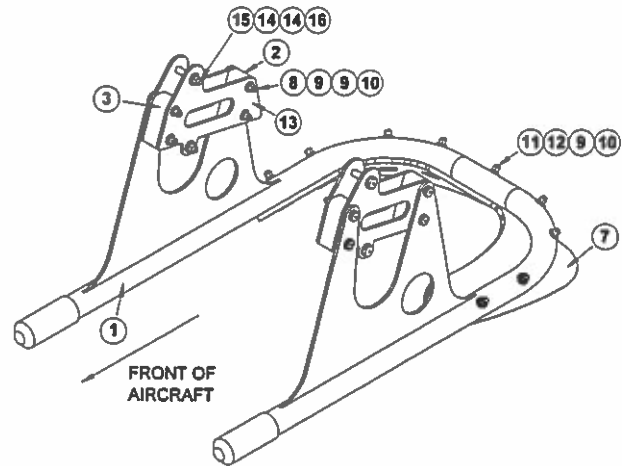

Figure 2. Nose Gear Gravel Deflector – Config. 2
2. Using the bolts, item -8 and -14, with washers, item -9 and -15, and nuts, item -10 and -16, clamp the top of the gravel deflector frame to the nose gear fork by bolting through the frame, the front and aft blocks, items -2 and -3, and the clamp plates, item -13, as shown in Figure 2.